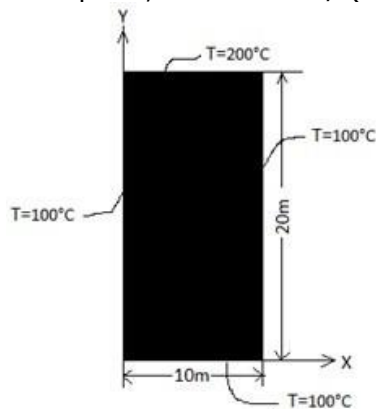

Figure 15
15. Analyze the given rectangular plate shown in Figure 15 for temperature distribution. Thermal conductivity of the plate, $K_{XX} = 401 \text{ W}/(\text{m}\cdot\text{K})$